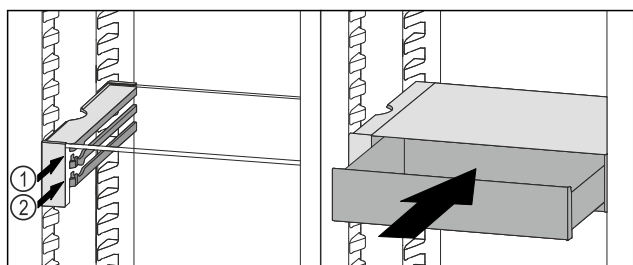

Fig. 137
- ▶ Place the VarioSafe drawer behind the stoppers on desired rib Fig. 137 (1) or Fig. 137 (2).